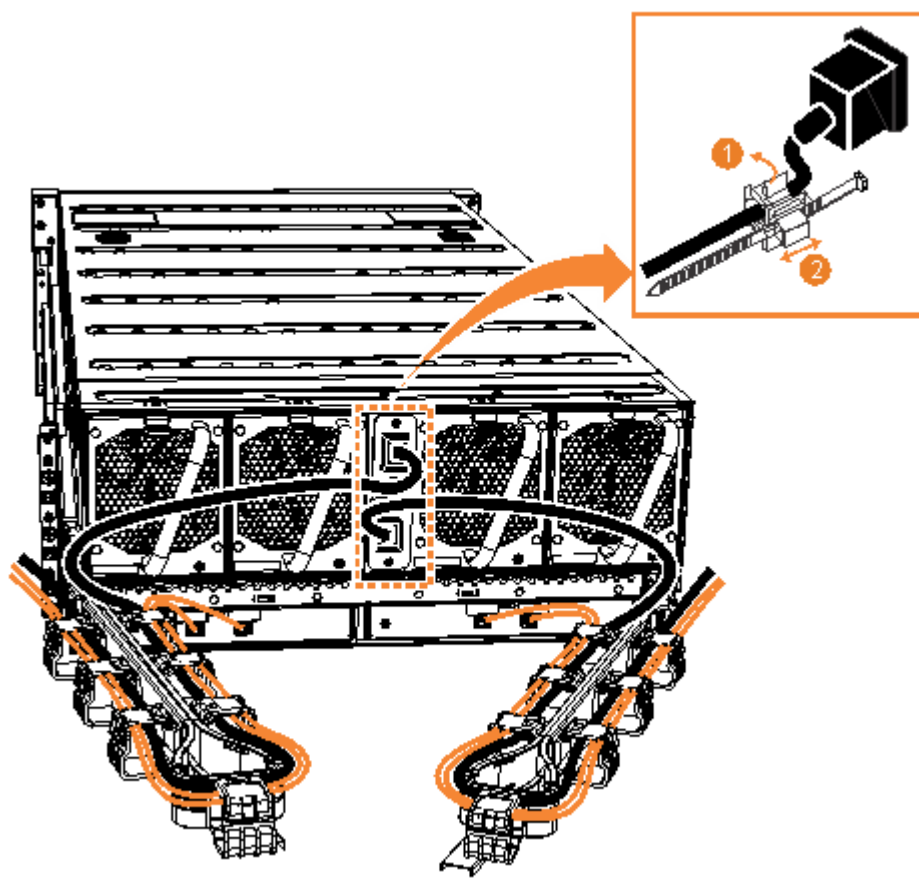

Figure 145. Secure power cables
2. Secure the power cables in the cable retainer at each power connector on the rear of the enclosure, as shown in Figure 145 on page 130. Also, ensure that each cable is installed along one of the cable management arms. The cable management arms also support the SAS cables.